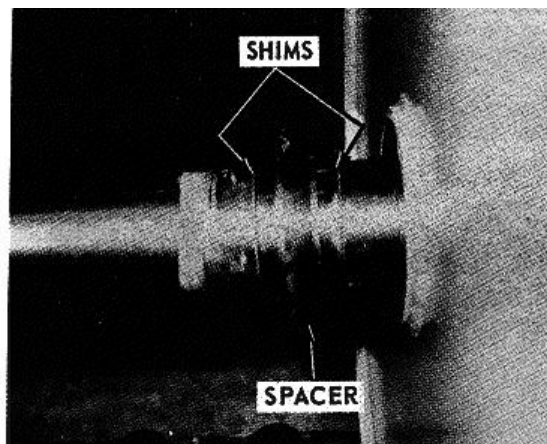

FIGURE 9-105.
d. Install shim(s) in original location (see step e, paragraph 9-101). Insert shaft assembly into one drum, then insert the other drum into the other side of the shaft assembly (see figure 9-105).